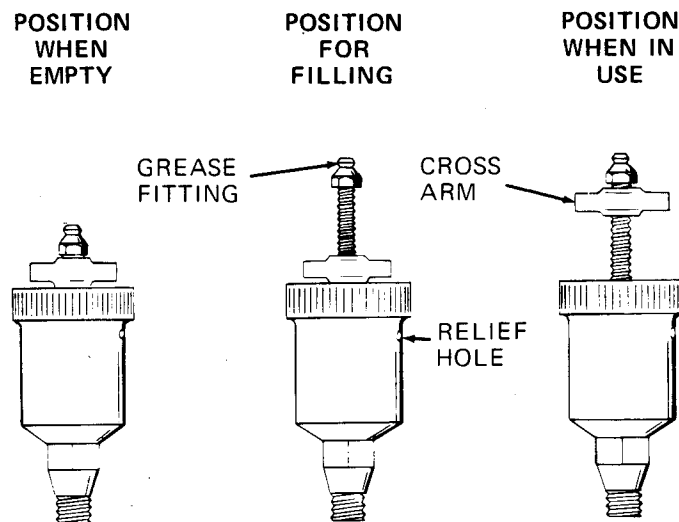

Figure 3. Automatic Lubricating Grease Cup
Before removing the seal assembly, turn the cross arm on the seal grease cup (6) clockwise until it rests against the cover (see figure 3). This will prevent the grease in the cup from escaping after the seal is removed.
Before starting the pump, fill the grease cup through the grease fitting with a good grade of No. 2 pressure gun grease until grease escapes from the relief hole. Turn the grease cup arm counterclockwise until it is at the top of the stem; this will release the spring to apply grease to the seal (see figure 3).